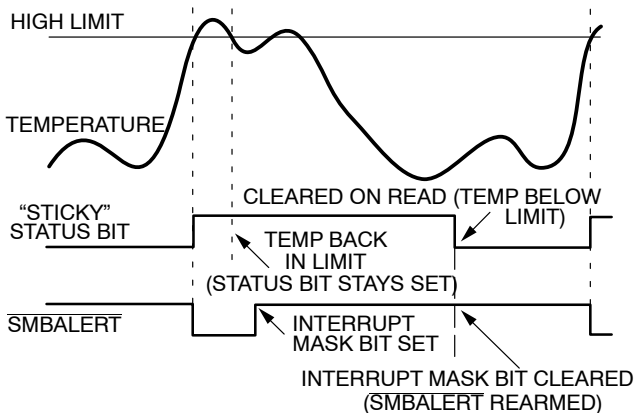

Figure 28. Effect of Masking the Interrupt Source on SMBALERT Output
7. Periodically poll the status registers. If the interrupt status bit has cleared, reset the corresponding interrupt mask bit to 0. This causes the  $\overline{\text{SMBALERT}}$  output and status bits to behave as shown in Figure 28.